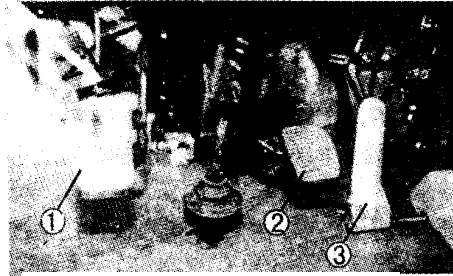

Fig. 1.2-37
Clutch pedal is used for controlling of power transferring from engine to transmission. Thread on the pedal, cut off power transfer, you can operate gear selection and gear shift; disengage the pedal, the power transfer shall be engaged. See ① in Fig. 1.2-37.
Threading on the pedal can produce braking force on four vehicle wheels. See ② in Fig. 1.2-37.
Accelerator pedal is used for controlling throttle opening. When driving, thread on accelerator pedal, engine rotating speed increases, and power output and vehicle speed increase too. See ③ in Fig. 1.2-37.